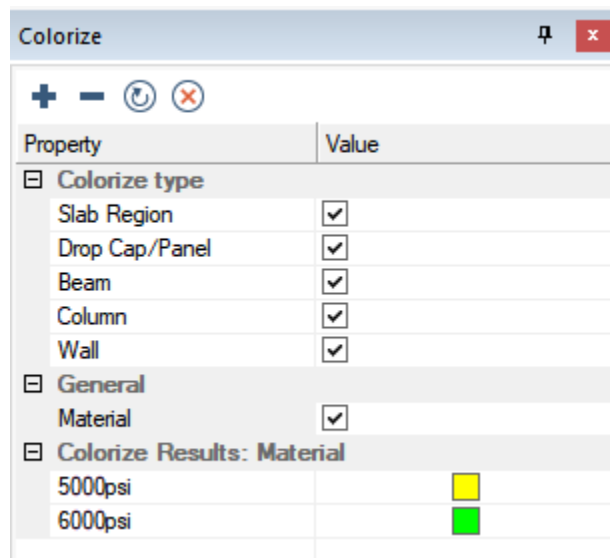

FIGURE 7-5
- In the *Colorize Grid* make the selections as shown in **FIGURE 7-5**.